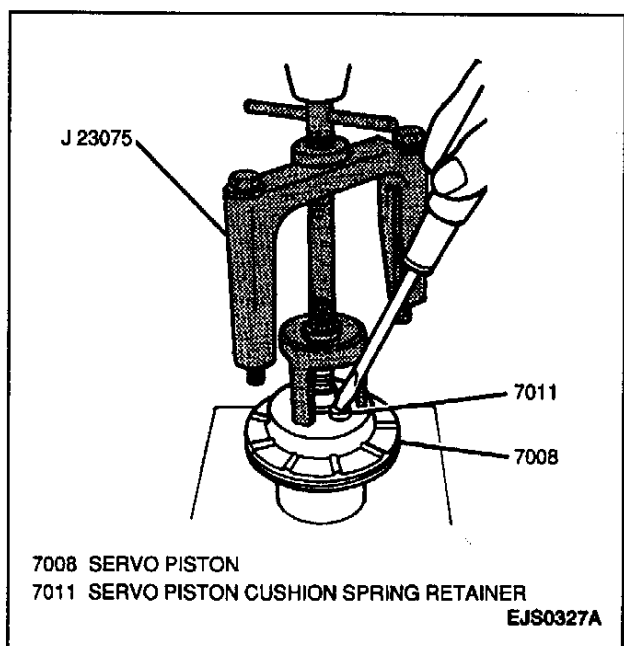

Figure 41—Removing Servo Piston Cushion Retainer Spring (3L30, 3-Speed)
19. Place the servo piston in a hydraulic press and compress the servo piston cushion spring using the J 23075 until the servo piston cushion spring retainer clip can be removed (Figure 41).
20. Servo piston cushion spring retainer clip from servo piston adjusting screw (Figure 41).
3. Place the servo piston in a hydraulic press and using the J 23075, compress the servo piston cushion spring until the servo piston cushion spring retainer clip can be installed (Figure 41).
4. Servo piston cushion spring retainer clip onto the servo piston adjusting screw (Figure 41).